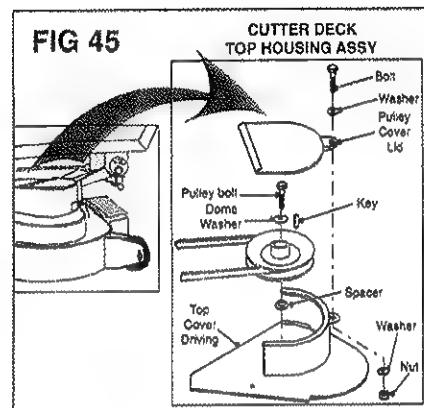

FIG 45
2. Has debris collected in the Cutter Deck Pulley Housing (Page 24 fig 45). If so remove the cover and remove the
2. Remove the Cover of the Cutter Deck Drive Pulley Housing (fig 45) - loosen and remove the 1/4" UNF nut and bolt using two 7/16" spanners/sockets - then slide (tap) the cover off.
12. Replace Cutter Drive Pulley (fig 45) renewing the Dome